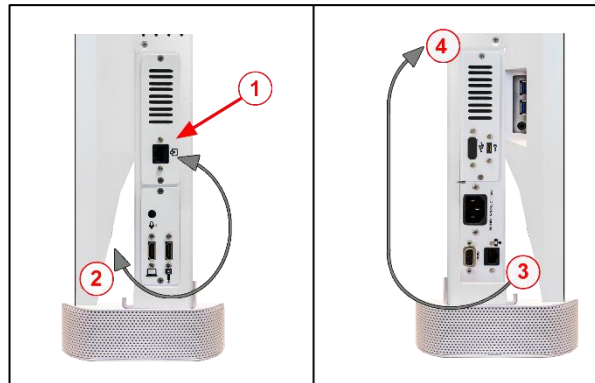

Figure 26. Cabling the Cisco Navigator
Once the Cisco Navigator and bracket assembly have been installed, an RJ45 cable (pre-installed) is connected the Control Port (1) on the right-hand side of the CLINiC. This cable runs to the left-hand side of the system in the void between the main chassis and the rear of the display (2) as shown in Figure. 26.